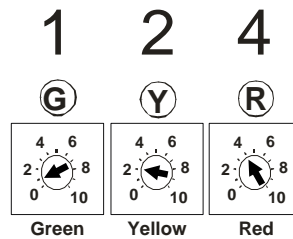

FIGURE 5
7. Remove the door from the Fi2000 module to expose the LED's. **NOTE:** The Fi2000CL base pot settings come preset from the factory for the Roadliner / Stratoliner, shown in (Figure. 5.) Verify the wire connections by turning the ignition on, prior to starting, and see if all three LEDs are on steady for a few seconds, and then go off. This is correct. If there are no lights visible, make sure the side stand is up, bike is in neutral, clutch is in and handlebar engine switch is set to run. If there are still no lights visible, re-check that all connectors are fully engaged and the ground wire is connected correctly.
Your Fi2000 fuel injection module has been tested and preset for best function and rideability on a motorcycle with aftermarket air cleaner and an aftermarket performance exhaust. The Fi2000 does however, have 3 important adjustments that allow you to tune the module for optimum performance, especially if you have performed other changes to your motorcycle. These adjustments also allow you to resolve drivability issues if our stock settings are not exactly right for your bike. Make sure your motorcycle is up to normal operating temperature (15 minutes of riding should be sufficient) before making any adjustments. Remove the door to expose the pots shown in Figure 5.